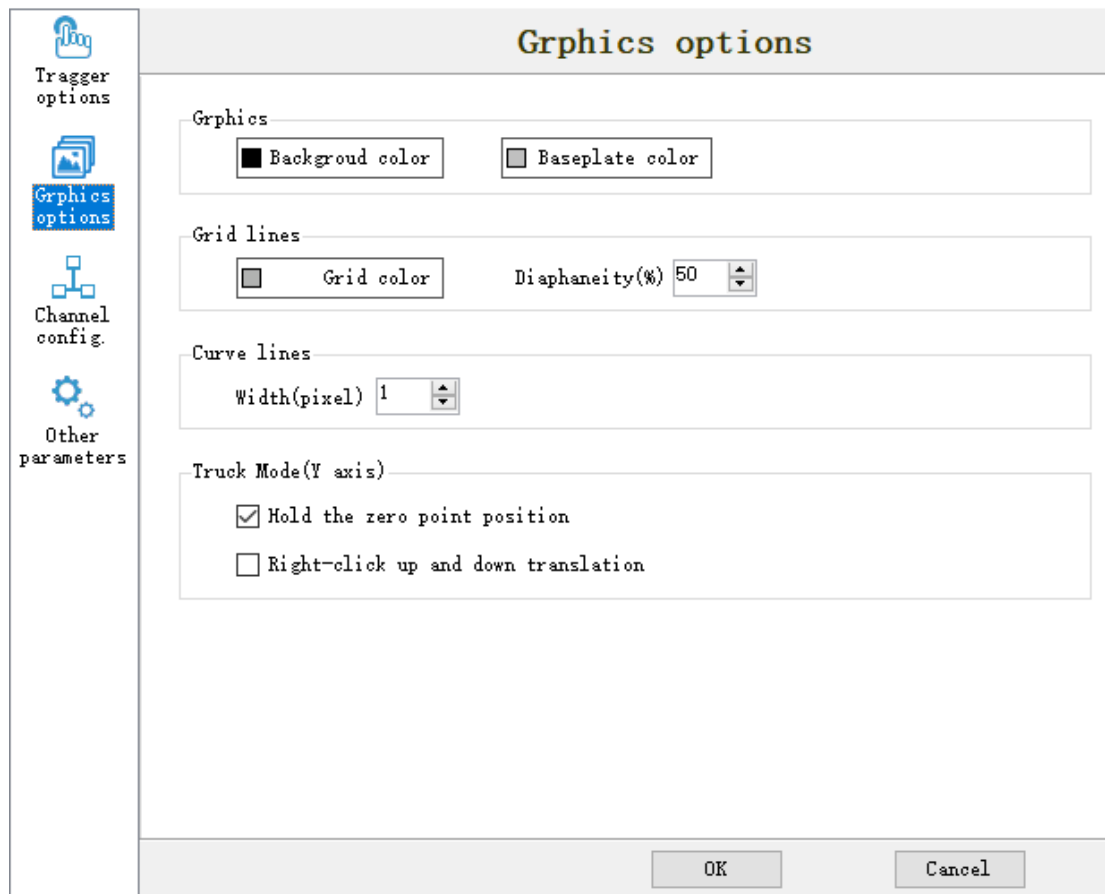

Figure 28
1. Click the icon  -> [Graphic option], switch to the graphic options page, as shown in Figure 28: